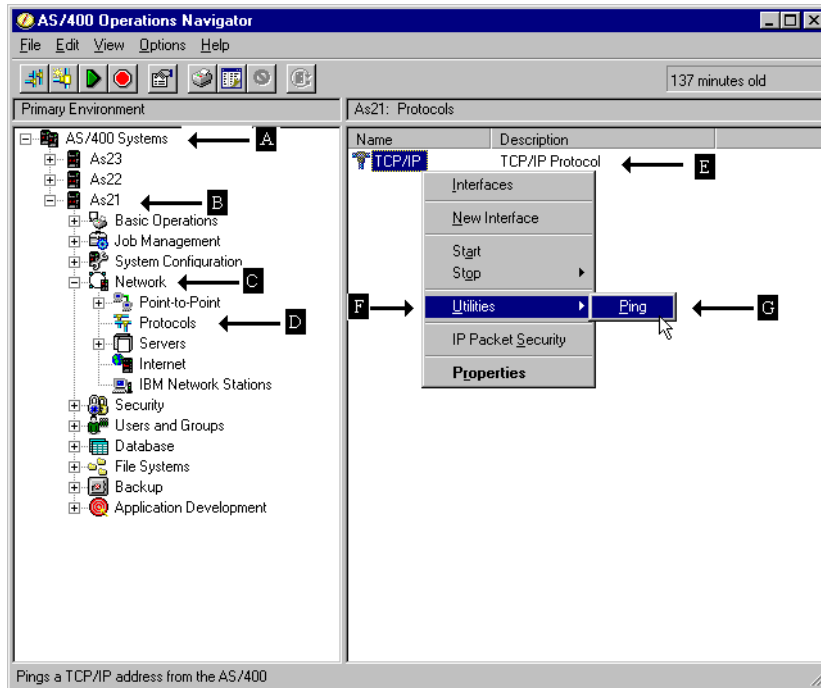

Figure 476. Ping from Operations Navigator
1. Double-click the AS/400 Systems icon (A), and it should give you a list of all the AS/400 Systems that you can configure.
2. Double-click **Network** (B).
3. Double-click **Protocol** (C).
4. Select **TCP/IP** (D).
5. Right-click **TCP/IP** to open a context menu (E).
6. Select **Utilities** (F).
7. Select **Ping** (G). Figure 476 on page 814 shows the Ping dialog.